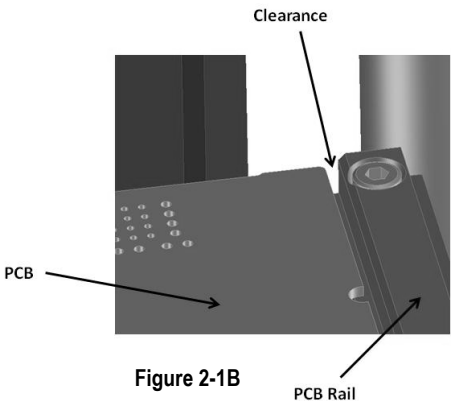

Figure 2-1B
5. Assess clearance between PCB and inside edges of PCB rails. This clearance should be approximately 2mm minimum to allow for adequate PCB float during PCB insertion. See Figure 2-1B.
6. Verify all (4) plunger positions for contact to underside of PCB. Avoid plunger contact with PCB components and cut out areas.